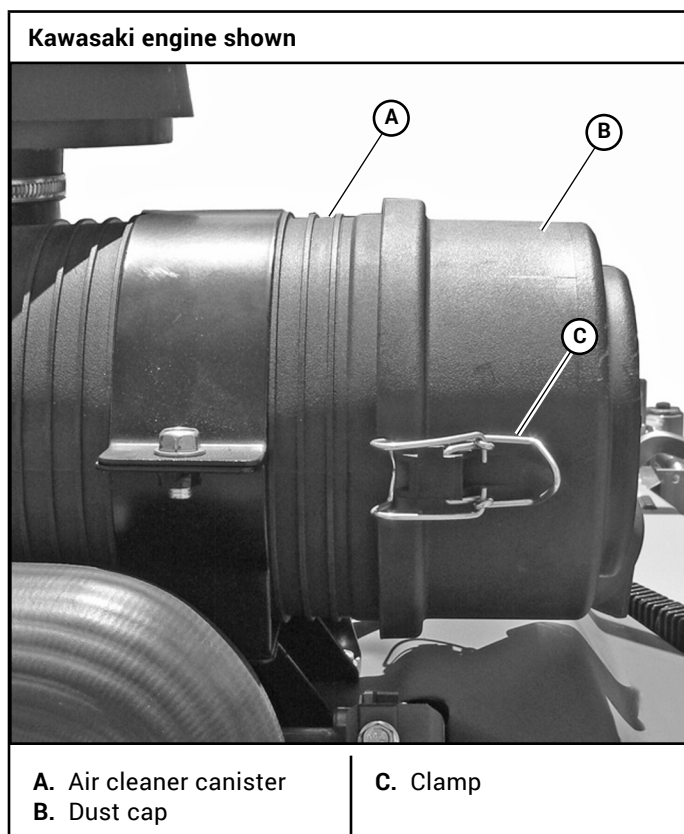
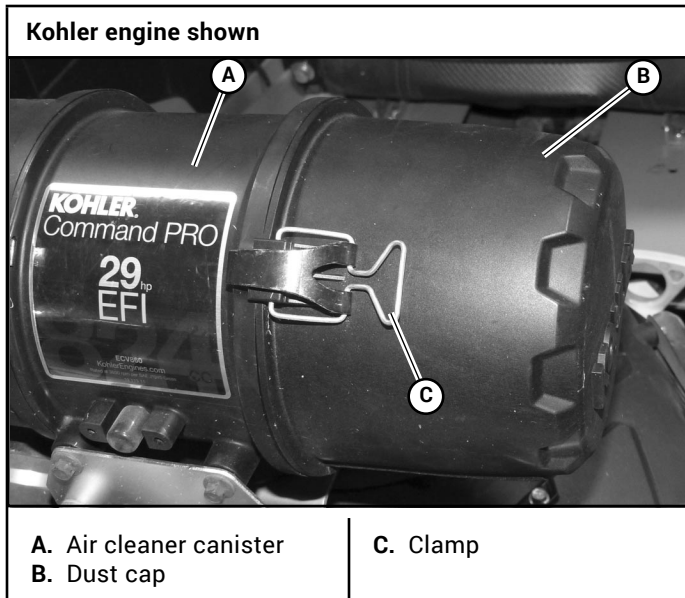

Figure 4-14
Figure 4-15
3. Reinstall the dust cap. Make sure it seals all the way around the air cleaner canister, then tighten the clamps. Figure 4-14 & Figure 4-15